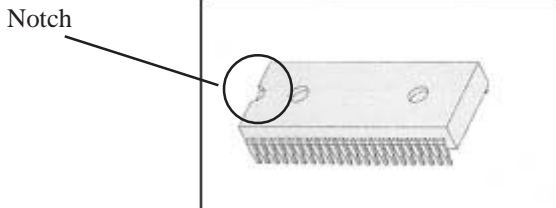

Figure 9. Eprom chip (Memory module).
15. Take the new EPROM [SD04.01 or SD05.01 (UK only)] and place it lightly on the chip socket, ensuring that the half-circle notch on the chip is positioned to the left (See Figure 9). Align the pins of the chip with the insertion holes of the socket.